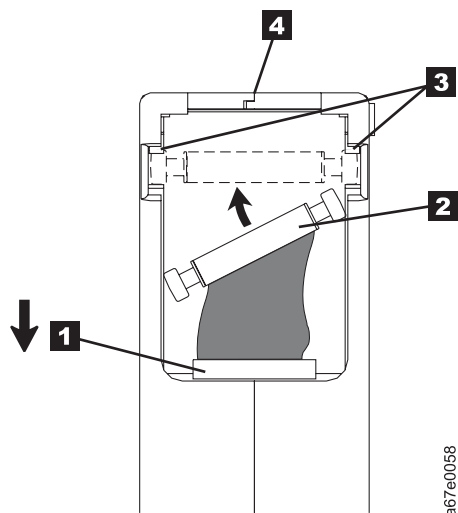

Figure 41. Placing the dislodged leader pin into the correct position.. The cartridge door is open to show the leader pin.
1. Slide open the cartridge door (**1** in Figure 41 on page 244) and locate the leader pin **2**. You may need to shake the cartridge gently to roll the pin toward the door.